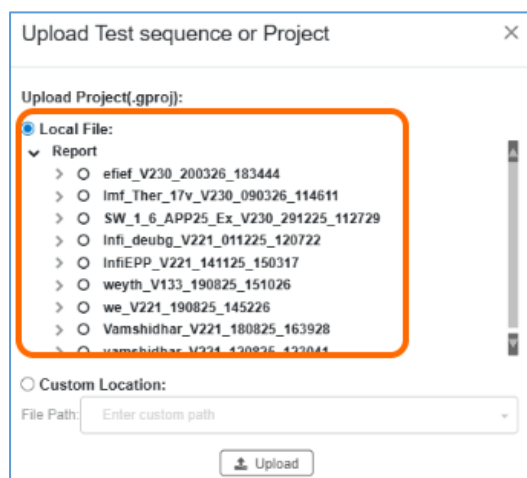

FIGURE 8.38: UPLOAD PROJECT— #2
2. If the required project file (.gproj file) was saved in the local file directory, select that project file under “Local File” as shown in Figure 8.38 below.